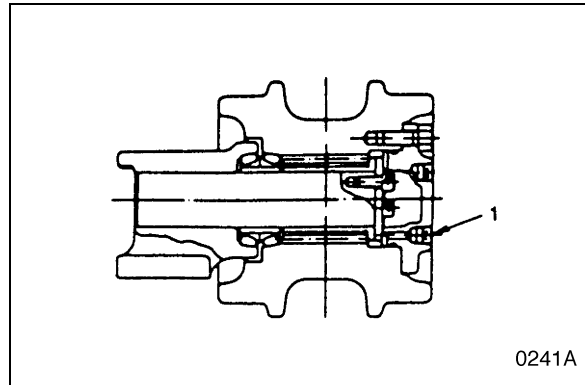

Figure 40
1. Remove the plug (1, Figure 40) from the cover and drain oil.